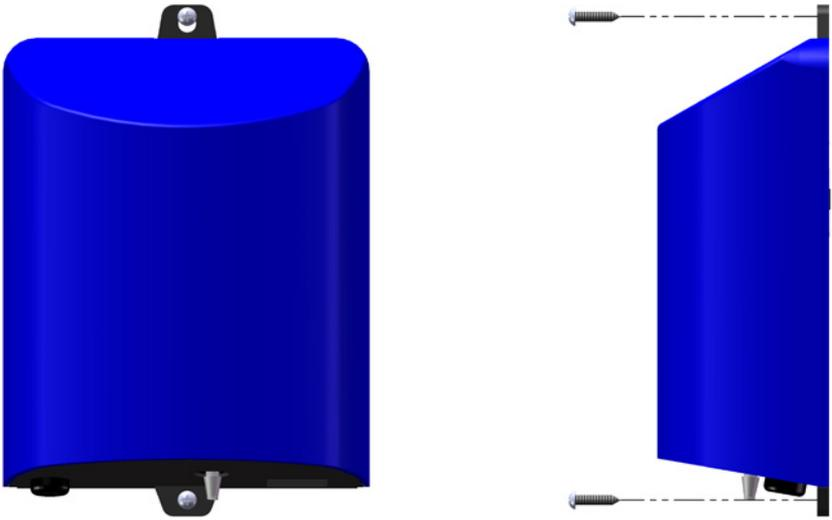

Figure 1: Wall Mount
- Install at least 5 feet (1.5 meters) from wall of pool. Install ozone generator no less than one (1) foot above maximum water level to prevent water from contacting electrical equipment. Install in accordance with the installation instructions.
- The ozone generator must be installed in an outdoor location, or indoors in a forced air ventilated room, and installed so that the orientation is exactly as shown in **Figure 1**.
The Ozone Generator units are designed for wall mounting. See **Figure 1**. Mount in a clean, protected area, either indoors or outdoors (preferably out of direct sunlight). Locate out of reach of sprinklers or drainage spouts. Allow sufficient access for maintenance and all tubing and electrical wires. Ozone Generator should be installed at least (not less than) one foot above the maximum water level. See **SECTION 2D-2, Ozone Gas Line**, for plumbing instructions based on mounting location.
1. Refer to **Figure 1** to mark the locations for the two mounting screws.